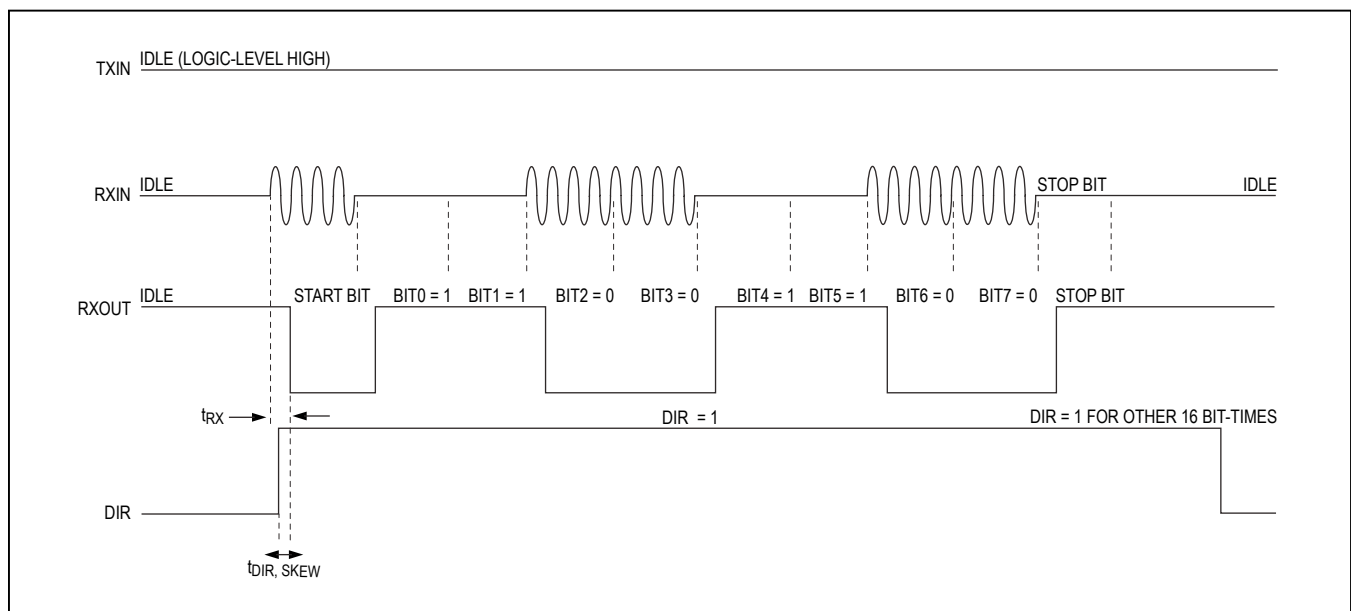
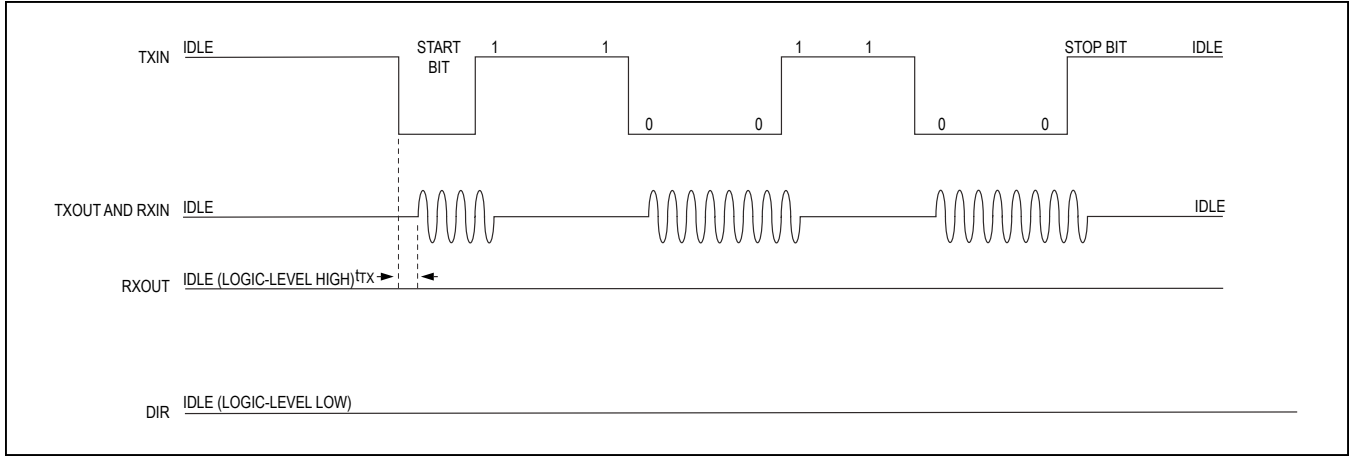

Figure 1. The MAX9947 on the Tower: Communication Flow is from the Base to the Tower
Figure 2. The MAX9947 on the Tower: Communication Flow is from the Tower to the Base
**Note 8:** See Figure 1.
Figure 1 and Figure 2 show the timing diagrams of the DIR functionality. When the data flows from RXIN to RXOUT, DIR remains high for 16 bit-times after the last logic-level low bit within the 8-bit protocol data. This is compliant with the AISG specification saying that the RS-485 transmitter stops driving the bus within 20 bit-times after the last stop bit is sent.